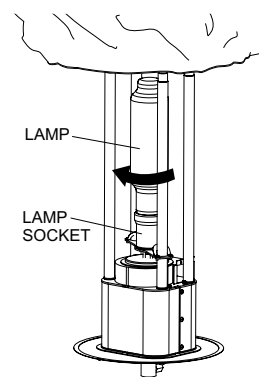

Figure 30. Installing New Lamp
6. Install new lamp into socket and turn lamp in a clockwise direction until tight. See Figure 30.